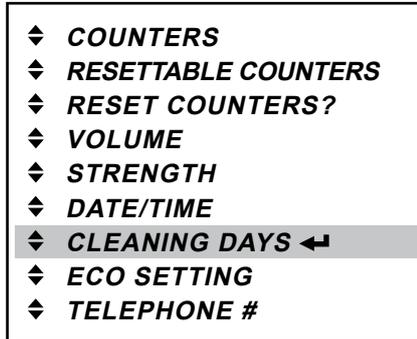

Fig. 38
- Press the enter button ◀ to access the «CLEANING DAYS» menu (fig. 38).